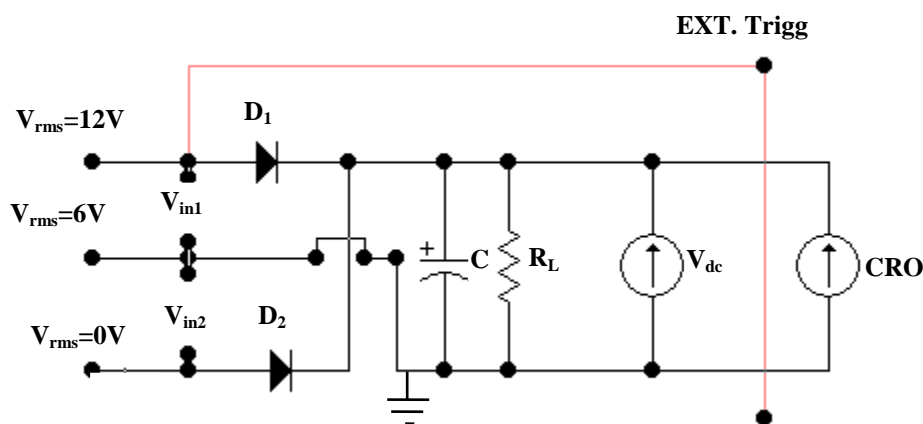

Fig. 1: Experiment set up of the circuit.
1. The circuit made up as in Fig. 1 and removes initially C, R_L .